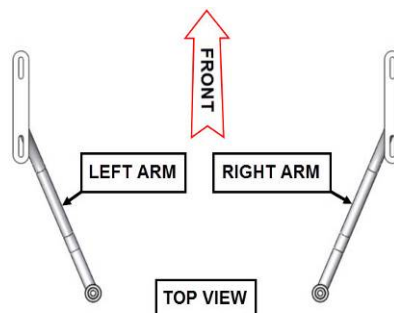

FIG. 4
12. REMOVE BOTH ARMREST ARMS FROM THE KIT AND USING FIG. 4 DETERMINE WHICH ARM IS FOR THE RIGHT SIDE.